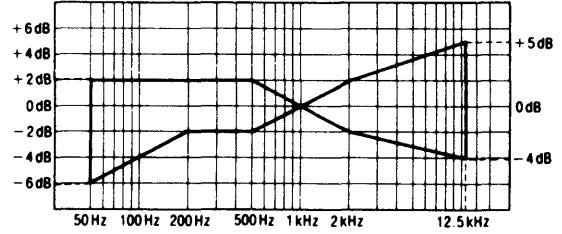

Fig. 9
5. Repeat steps 3 and 4 above for CrO₂ blank test tape (QZZCRX) and Metal blank test tape (QZZCRZ), in these cases raising the upper end of the test signal frequency range to 12.5kHz. Verify that the signal levels at the test frequencies fall in the ranges specified in **Fig. 9** with respect to the reference signal level.